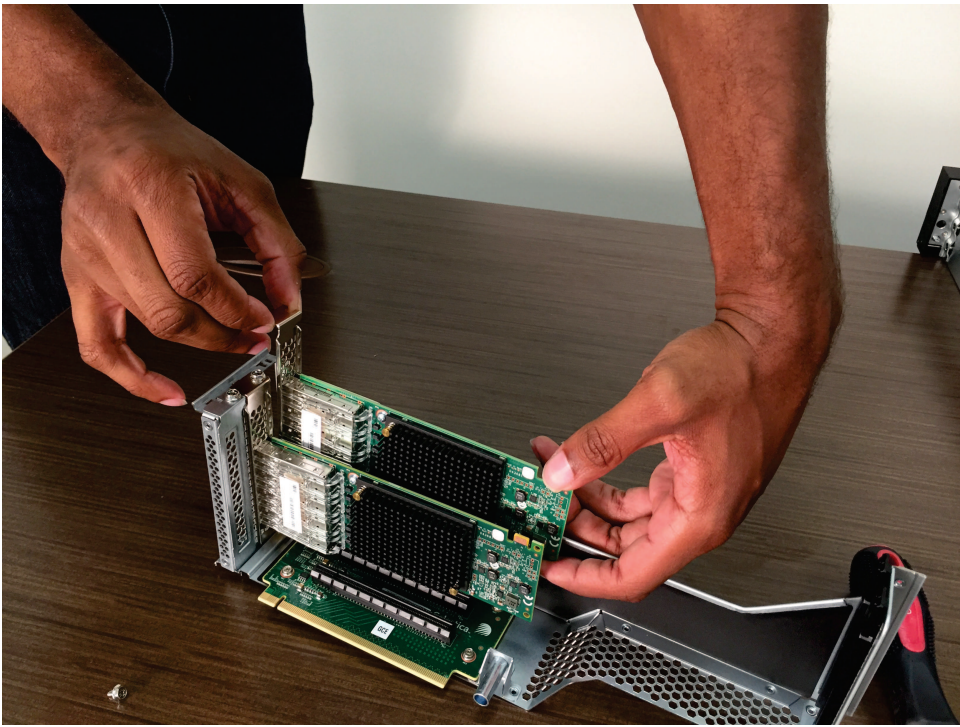

Figure 155. Removing the adapter from the adapter connectors
4. Carefully grasp the adapter by its top edge or upper corners. Pull the adapter from the PCI expansion slot, as shown in Figure 155.